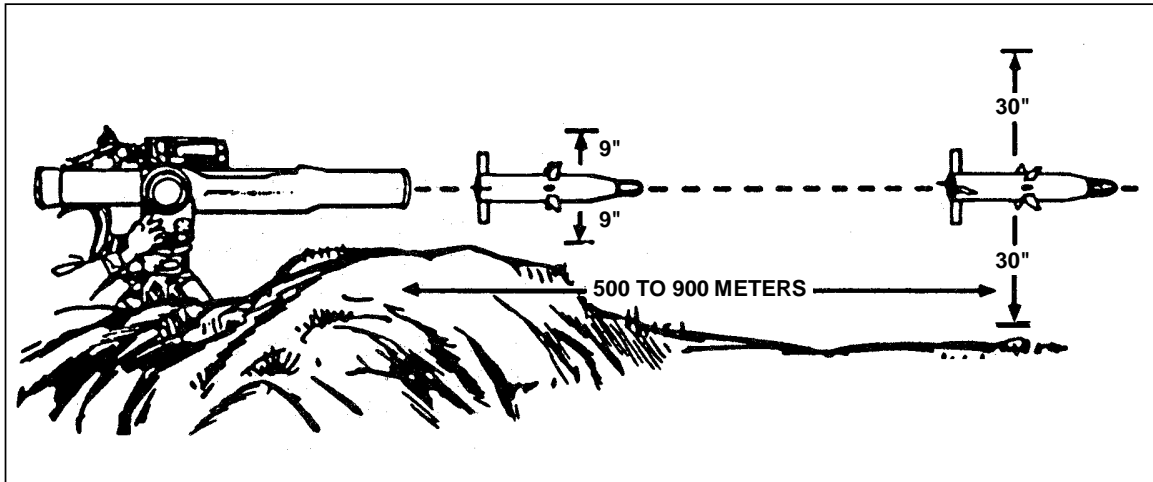

Figure 3. Clearance requirements.
7. Follow clearance requirements (Figure 3).